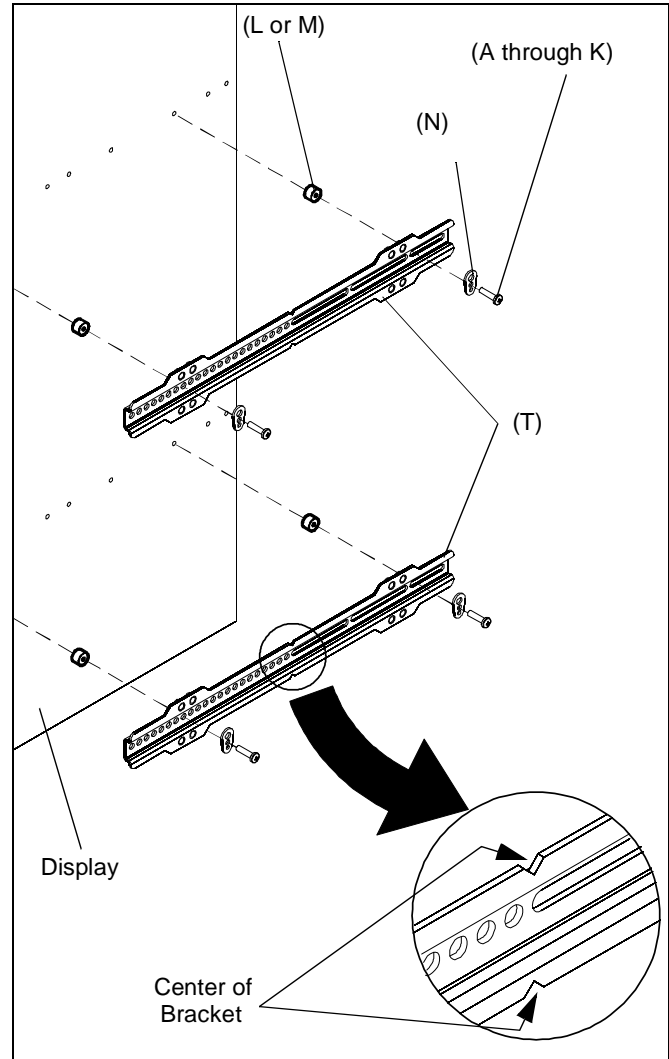

Figure 5
1. Horizontally align the center of the display brackets (T) with center of screen. (See Figure 5)
2. Select correct screws, spacers (if necessary) and washers from the hardware bag and attach display brackets (T) to back of screen. (See Figure 5)